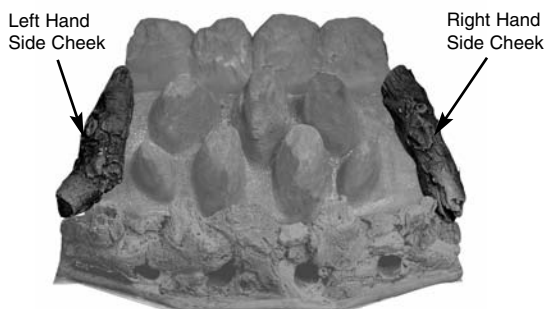

Fig. 44
4. Place the side cheeks into position, making sure they are positioned either side of the fuel bed and the overhang is at the front. The outside edge should be in contact with the radiant box ceramic liner. Ensure that the lower part of the side cheeks sit on the front coal and are in front of the rear coal (Fig. 44).